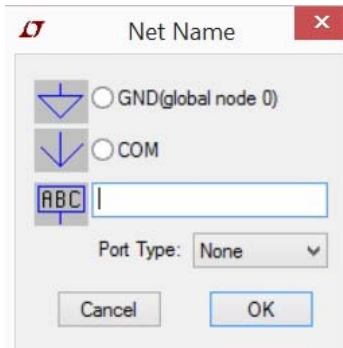

Figure 5. Net name form
- F. Click  on the schematic window to add ports. The **Net Name** form appears as Figure 5.